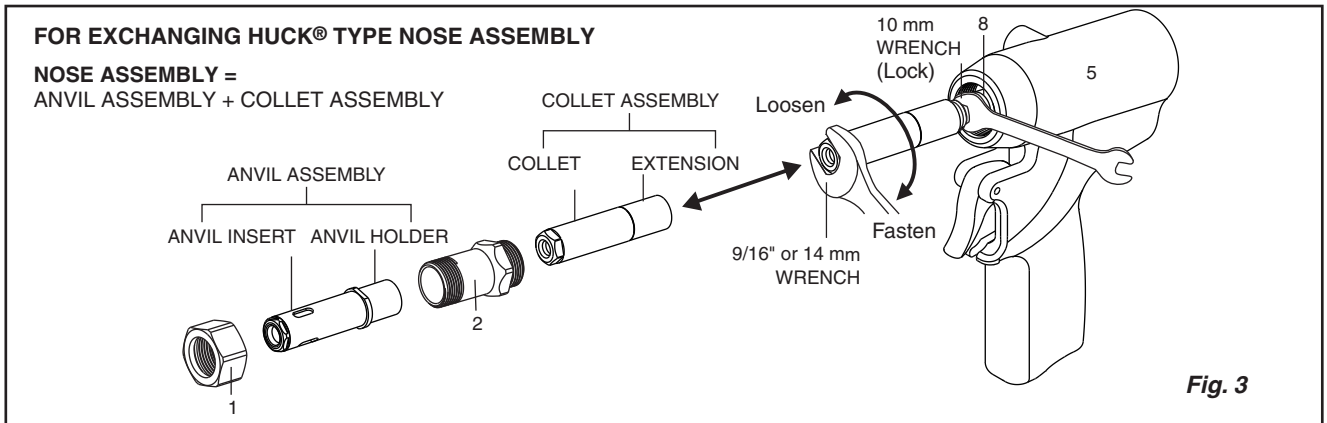

Fig. 3
- Use wrench 2712 (52) 27 mm to unscrew the retaining nut (1), take out the anvil assembly, and then use same wrench (52) 27 mm to unscrew the adapter (2) from the oil cylinder (5).
- See Fig. 3**, use a wrench 10 mm to lock the crosscut planes of oil piston (8) and a wrench 9/16" or 14 mm to unscrew the front hex part of collet, the collet and extension along with o-ring are separated from the threaded part of oil piston (8). Now the replaced nose assembly is dismantled, check and replace the worn o-ring.
**See Fig. 3**, choose the new nose assembly, check to ensure a good o-ring is put in the rear end of extension, use a wrench 10 mm to lock the crosscut planes of the oil piston (8) in the oil cylinder (5) and a wrench 9/16" or 14 mm to fasten the front hex part of collet together with the extension and o-ring back to the threaded part of oil piston (8) firmly. Fasten adapter (2) back to the oil cylinder (5), put back anvil assembly onto the fastened collet assembly, finally use wrench 2712 (52) 27 mm to fasten retaining nut (1) back to adapter (2) firmly. Now the new working nose assembly is ready for setting the matched size lockbolt or structural blind rivet.
3. **See Fig. 3**, use a wrench 10 mm to lock the crosscut planes of oil piston and a wrench 9/16" or 14 mm to unscrew the front part of collet, the collet assembly along with o-ring are separated from the threaded part of oil piston (8). Now the replaced nose assembly is dismantled, check and replace the worn o-ring.